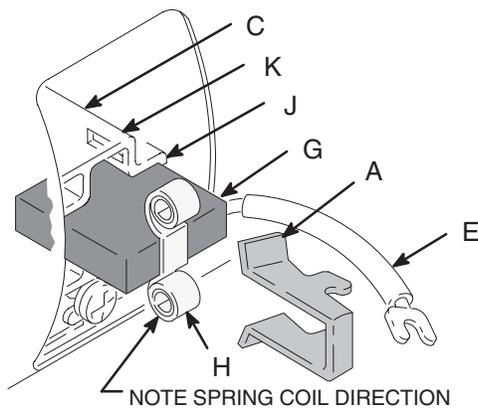

Fig. 5
7. Fig. 5. Install new brush (G) with lead in long slot (J) of brush holder (C).
9. Fig. 5. Place spring (H) on brush (G).
10. Fig. 5. Install spring clip (A). Push down to hook short slots (K) in brush holder (C).